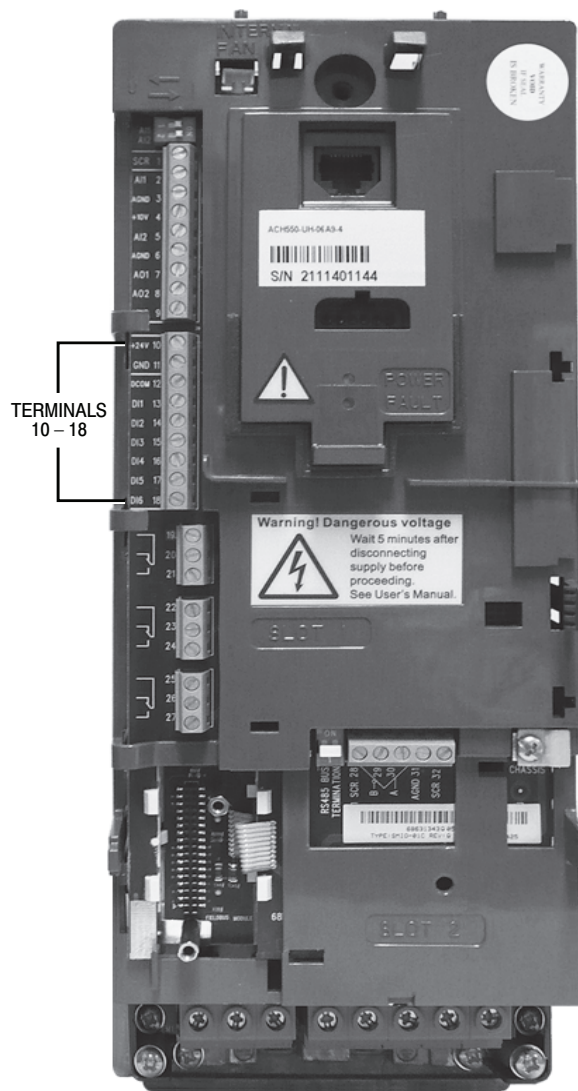

Fig. 25 - Location of VFD Terminal Strip
3. Disconnect the DI1 input at Terminal 13 (see Fig. 25 for location of DI1).